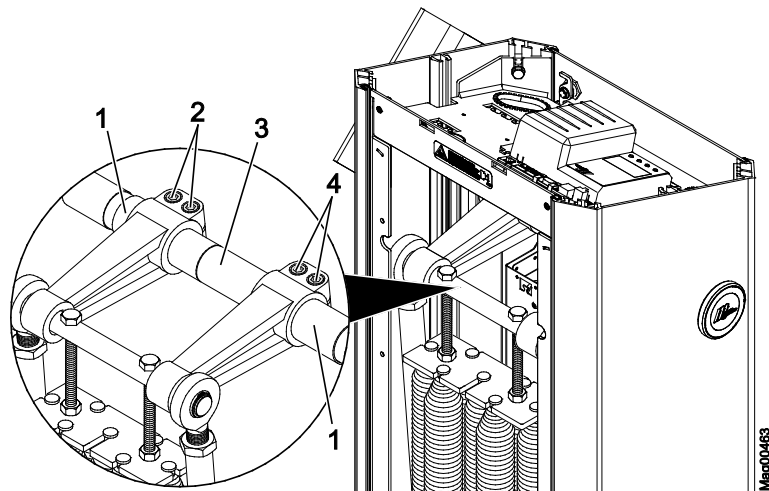

Fig. 30: Access XXL – Loosen hexagon socket screw
- Access XXL: See page 72, Fig. 30.